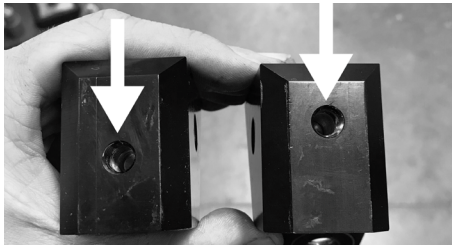

Fig. 4 Driver's side (Left), Passenger's side (Right)
5. The JL 3.0 Factory Race Series Shocks come with two relocation blocks for the lower front shock mounting. Relocation blocks must be installed in each OEM lower shock mount for the 3.0 Factory Race Series Shocks to fit correctly. See Figure 4 to determine the Left and the Right bracket.